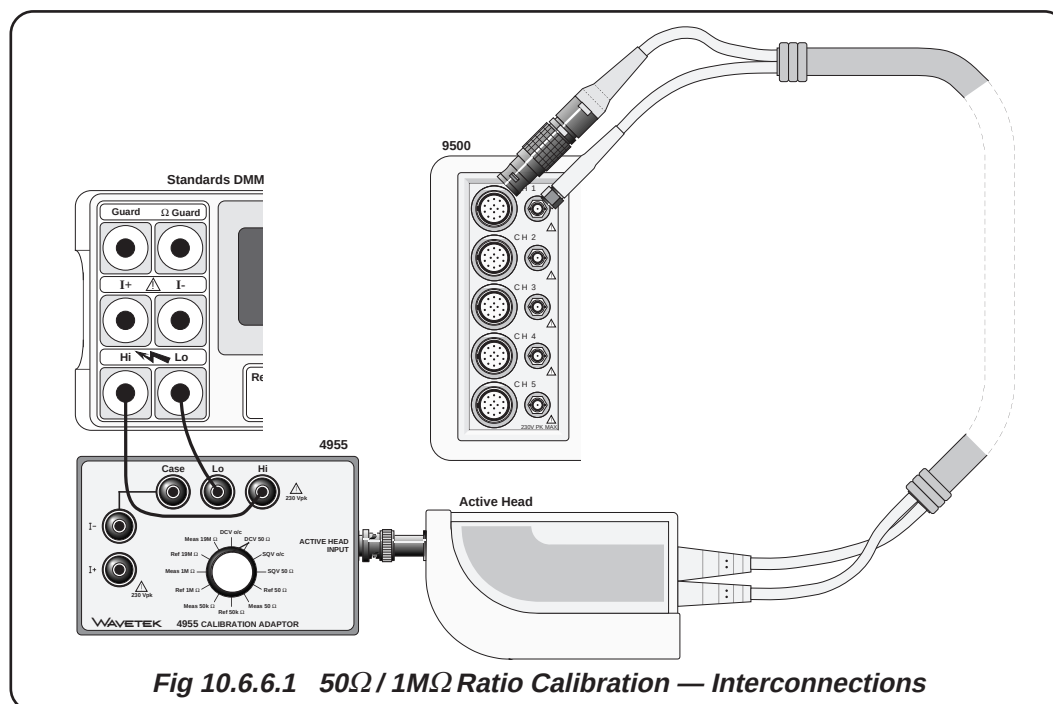

Fig 10.6.6.1 50Ω / 1MΩ Ratio Calibration — Interconnections
- 1 Ensure that the 9500B is connected to the DMM as shown in figure 10.6.6.1, and that both instruments are powered and warmed up.